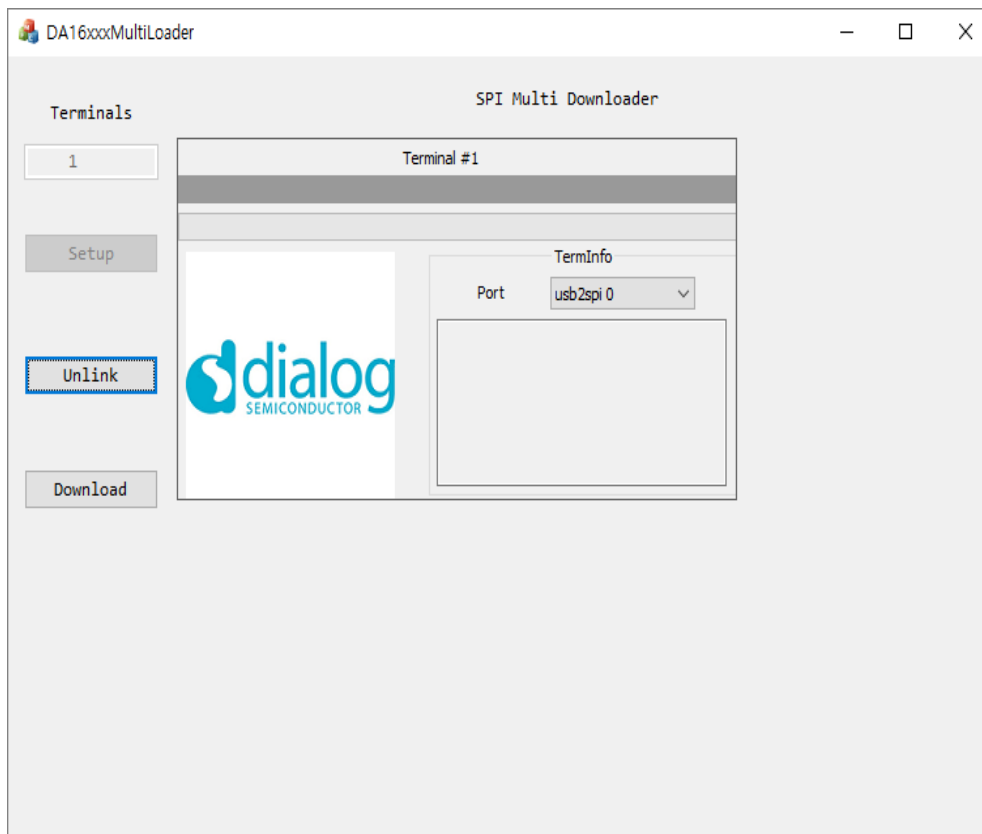

Figure 8: Link to PC
1. Click the **Link** button to setup a link between the test PC and the DA16200 via the SPI interface. The status changes as shown in Figure 8.